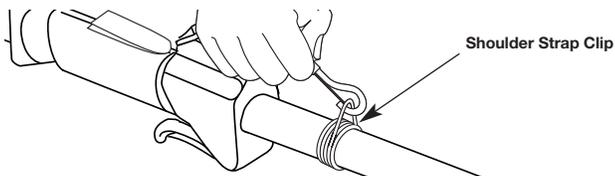

Fig. 6
3. Put the harness on over head and onto shoulder. Snap it on to the shoulder strap clip (Fig. 6).